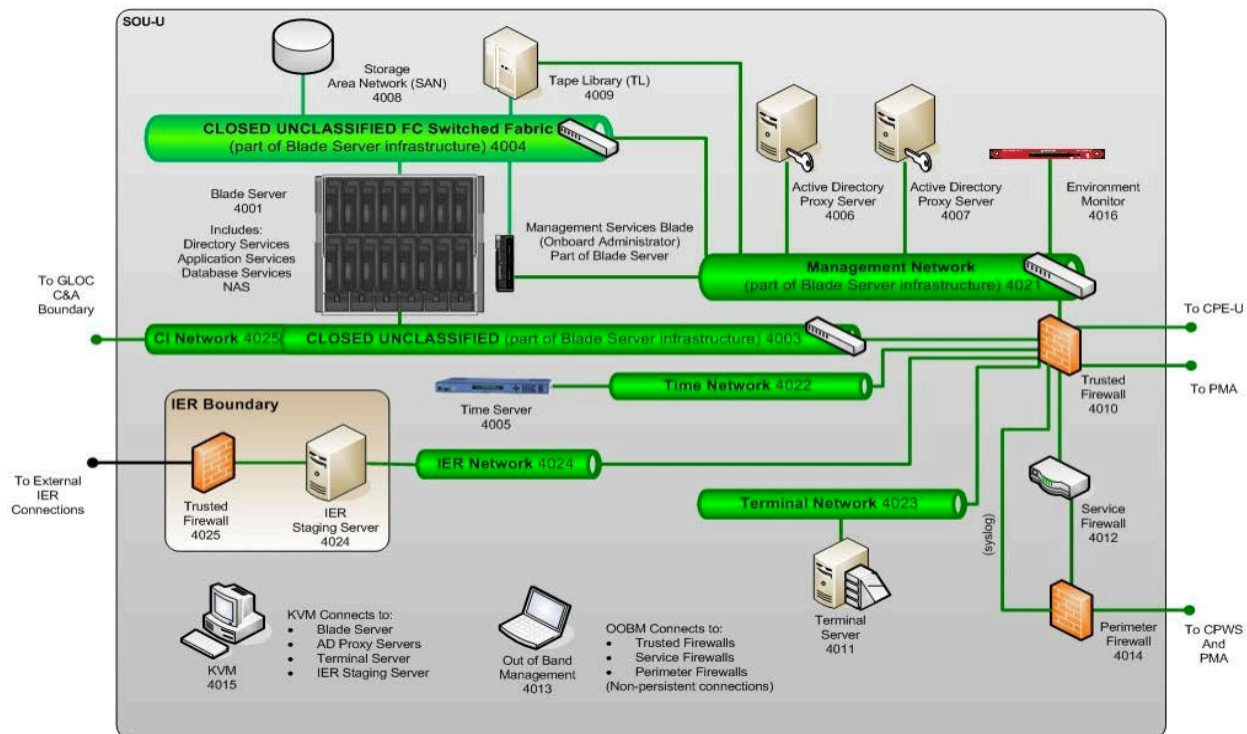

Figure 2-1 System Boundary [Sample 1]
*Provide a detailed description of the system under test. Figure 2-1 is a Functional Block Diagram depicting all hardware components and interfaces under test. Each block in the diagram shall represent an independent functional component. External and internal interfaces shall be shown and the external equipment or systems that interface with the equipment or system shall also be shown.*